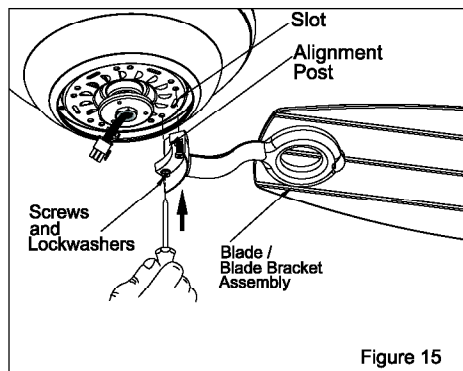

Figure 15
3. Fasten the blade assembly to the motor by inserting the alignment post into the slot on the bottom of the motor and tightening the motor screws. Please note that the motor screws are pre-attached into the blade brackets (Figure 15).